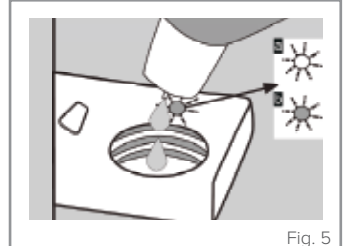

Fig. 5
2. Fill the rinse aid compartment until the rinse aid indicator goes dark, as shown in Fig. 5 (where 'a' indicates the compartment is empty, and 'b' indicates the compartment is full).